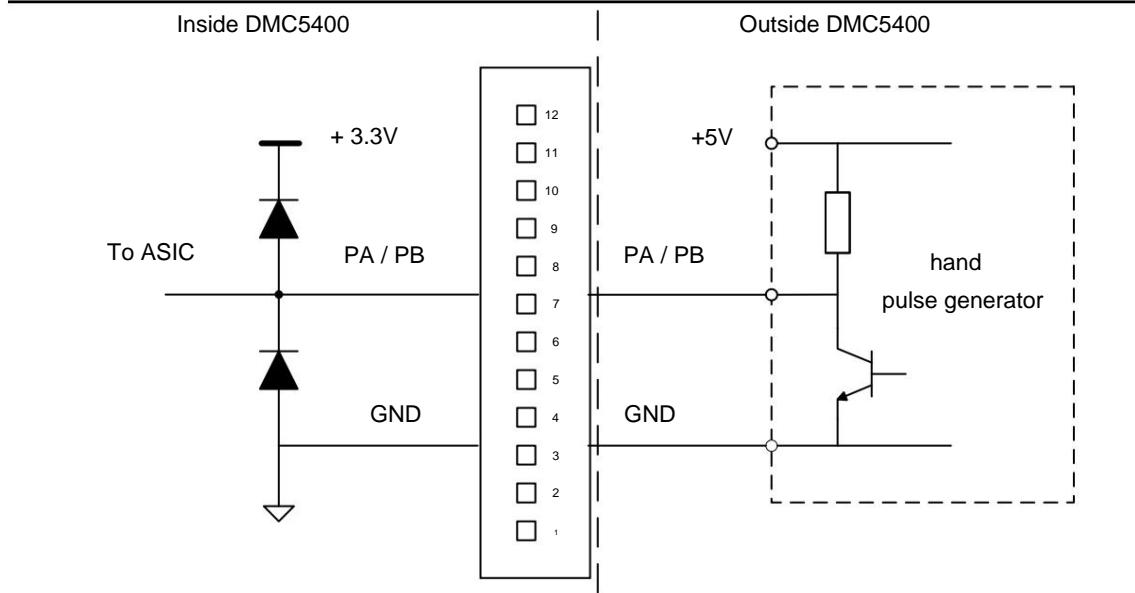

Figure 2-26 Schematic diagram of external pulse signal input
Leadtech DMC5400 motion control card provides hand pulse generator input interface PA (PB) for each axis. The typical wiring principle is shown in Figure 2-26 below. The user can control the movement of the motor by inputting the pulse signal through the PA (PB), and the movement distance and speed of the motor are controlled by the input pulse number and pulse frequency. See 8.1.3 Pin Definition of Interface X3 for specific pin port definition , and see 4.2.7 Handwheel Motion Control for specific input mode setting and motion control function enable .